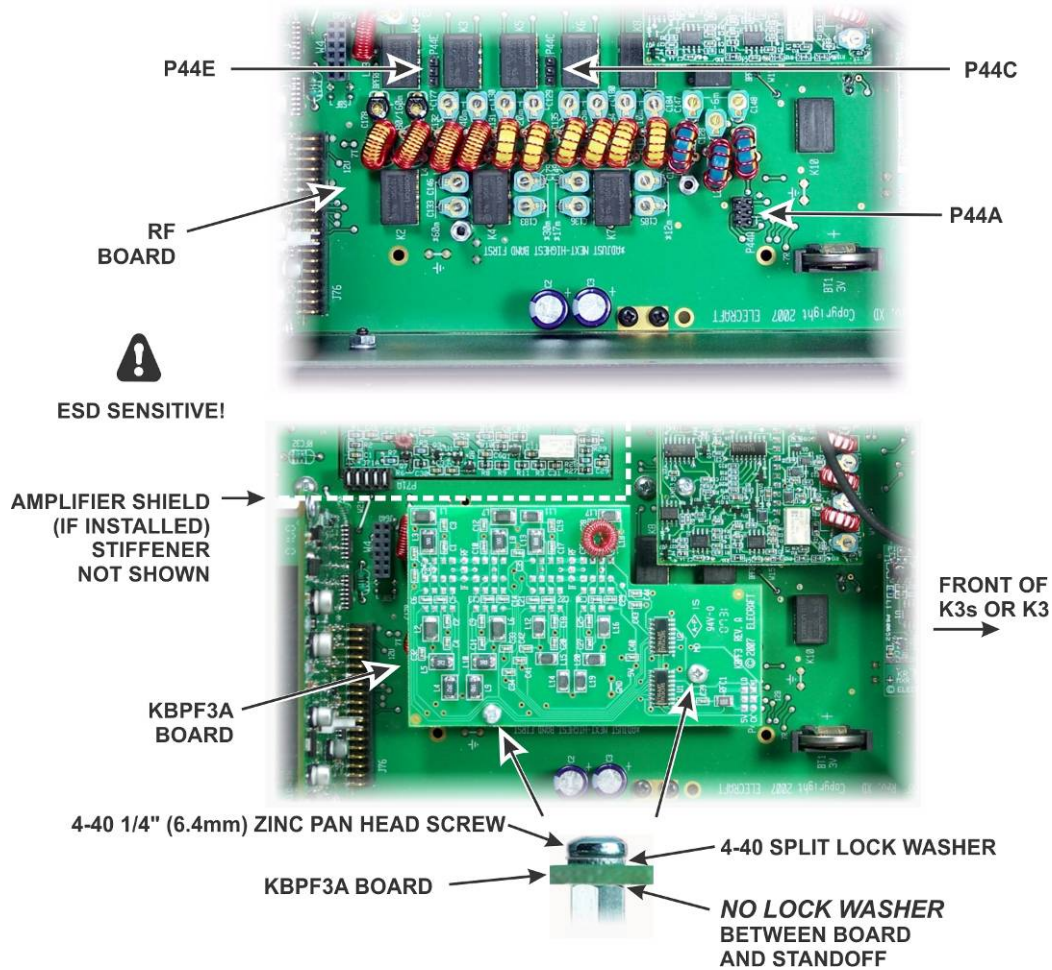

Figure 13. Mounting the KBPF3 Board.
There are three connectors on the bottom of the KBPF3A board that must be properly mated to P44A, P44C and P44E on the RF board (see Figure 13). Even though the connectors may be hard to see as they are mated, especially if the amplifier shield is installed, they can be aligned as follows:
- Attach the board with a 4-40 1/4" (6.4 mm) zinc pan head screw and lock washer at each standoff as shown in Figure 13.